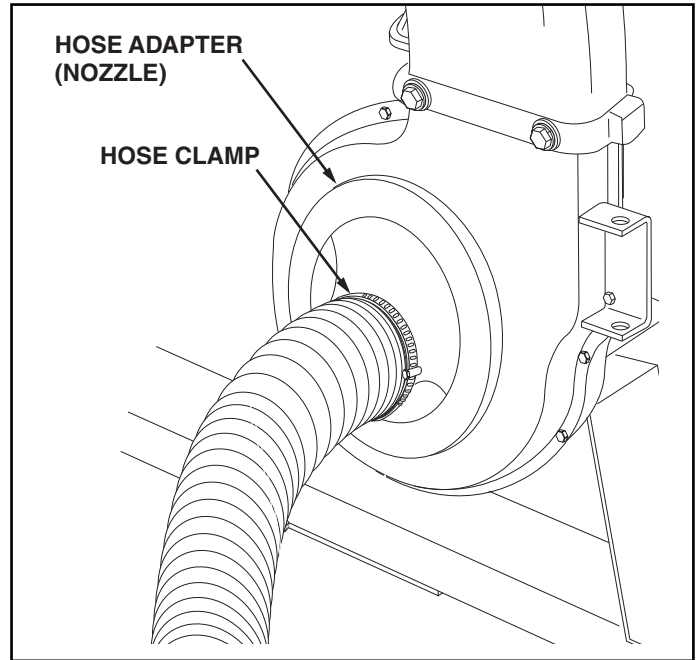

FIGURE 8
12. Place a hose clamp onto the end of the hose. Push the hose onto the hose adapter (nozzle). Tighten the hose clamp onto the hose and hose adapter. **Do not collapse hose adapter when tightening clamp.** See figure 8.